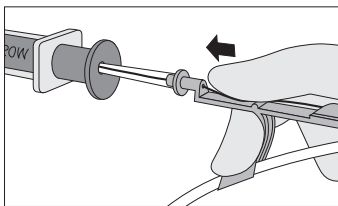

Figure 4
- Advance guidewire into Arrow Raulerson Syringe approximately 10 cm until it passes through syringe valves (refer to Figure 4) or into introducer needle.